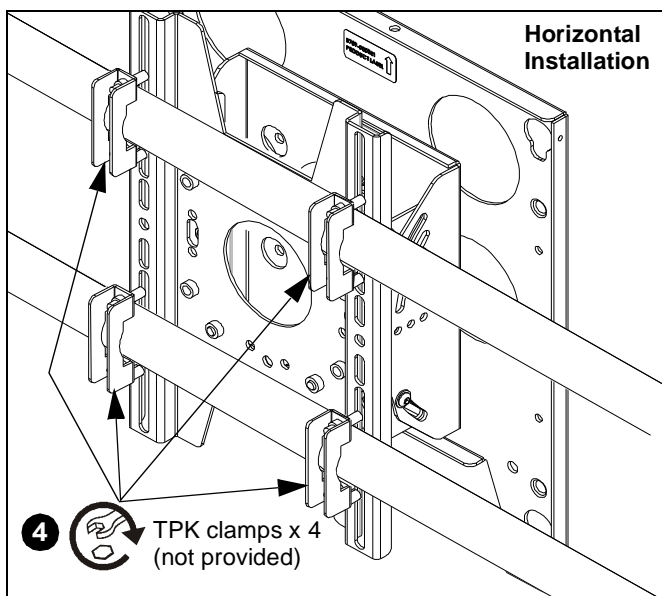

Figure 5
4. Securely anchor TPP assembly to horizontal poles using Chief TPK accessory clamps (not included) following instructions included with TPK kit. (See Figure 5)